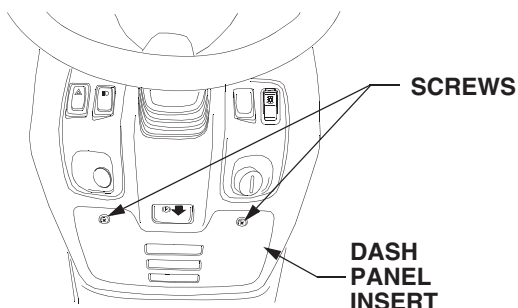

Figure 41
Some electrical components are housed inside the lower dash panel. To access the area, remove the dash panel insert by removing the two screws. See Figure 41.
- Remove the dash panel insert by removing the two screws. Refer to Figure 41.